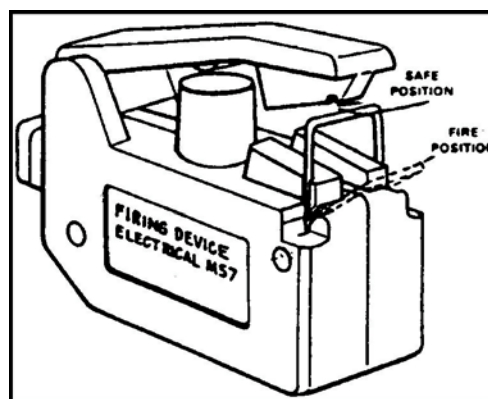

Figure 13. Firing device in the FIRE position.
- c. Position the firing device safety bail in the FIRE position (Figure 13).